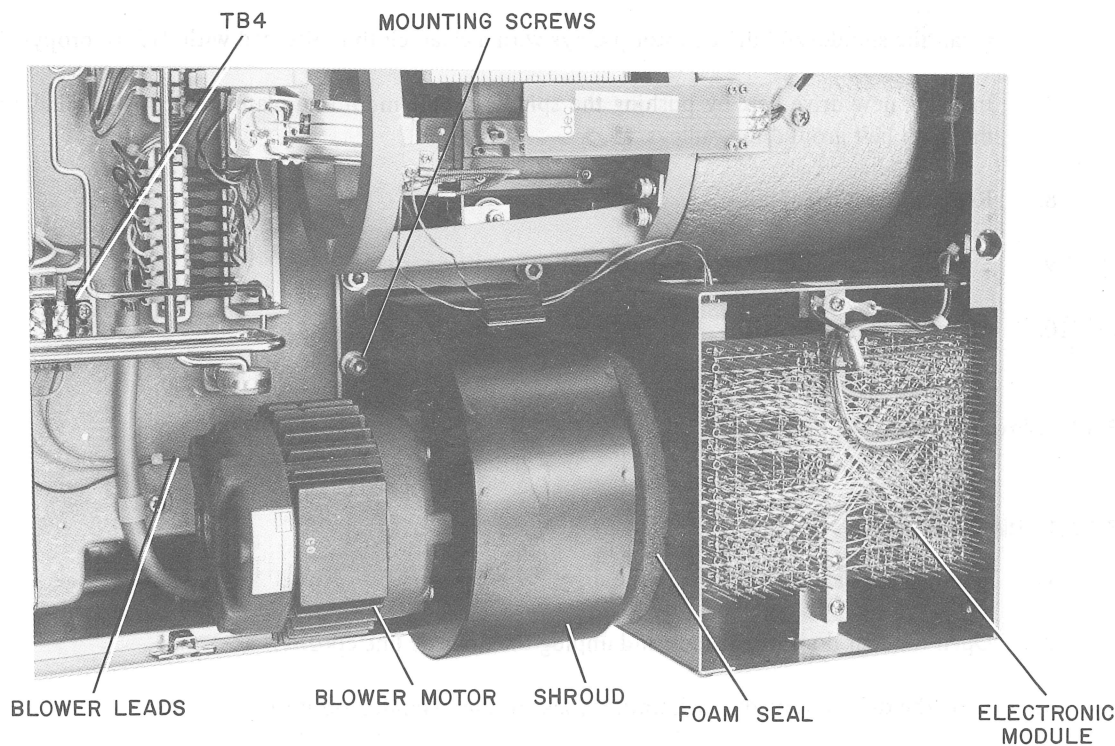

Figure 5-9 Blower Motor Removal
5. Disconnect the spindle motor leads from TB4 (Figure 5-9) and the spindle motor relay (Figure 5-7a).
3. Connect the spindle motor leads to TB4 (Figure 5-9) and to the spindle motor relay (Figure 5-7a). Refer to the chassis wiring drawing for TB4 and the spindle motor relay connection color code.
5. Disconnect the blower leads from TB4 (Figure 5-9).
1. Carefully insert the shroud inlet ring into the foam seal (Figure 5-9) and secure the blower and shroud to the baseplate with the previously removed hardware.